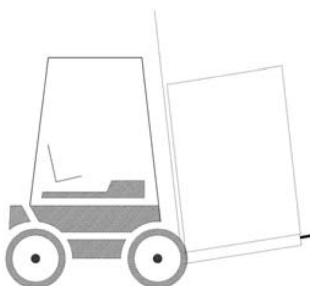

Fig. 5: Transport with a forklift/lift truck:
- Adjust the forks so that the crate is properly balanced (Fig.5).